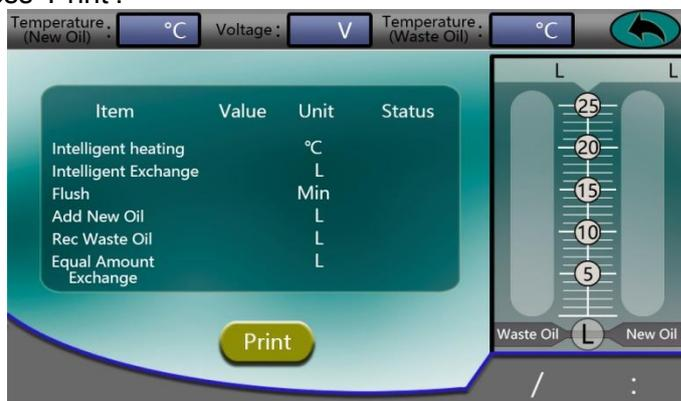

Fig. 32
10.2. Tap 'Print' (Fig. 32) for the result.